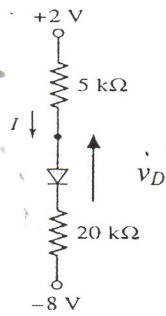

Figure 1
- (c) Refer to the diode circuit in Figure 1. Assume the diode is silicon and uses diode practical model.